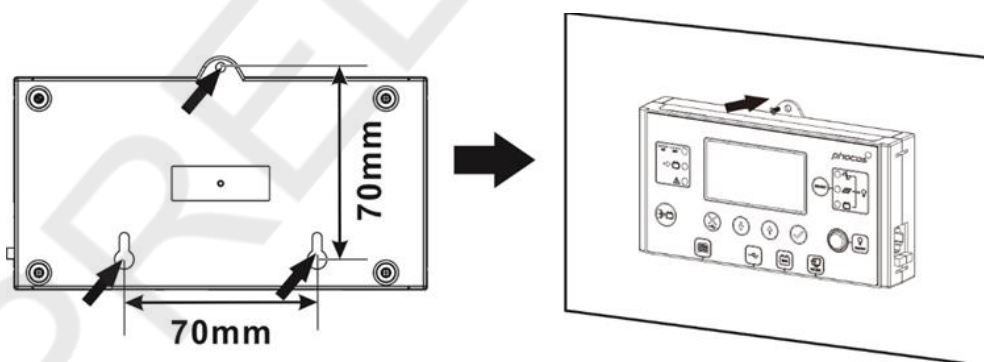

Fig. 12: Remote display mounting hole locations
5. Drill the three mounting holes in the marked distances of 70 mm, 2.75 in to each other (**Fig. 12**, left). Use M3, size no. 4 diameter screws. The screw heads must be between 5 ~ 7 mm, 0.2 ~ 0.3 in. Screw the bottom two screws into the wall where the display module is to be mounted and let the screw heads protrude 2 mm, 0.08 in. from the wall. Slide the display down on the protruding screw heads. Now insert and tighten the third screw at the top (**Fig. 12**, right).